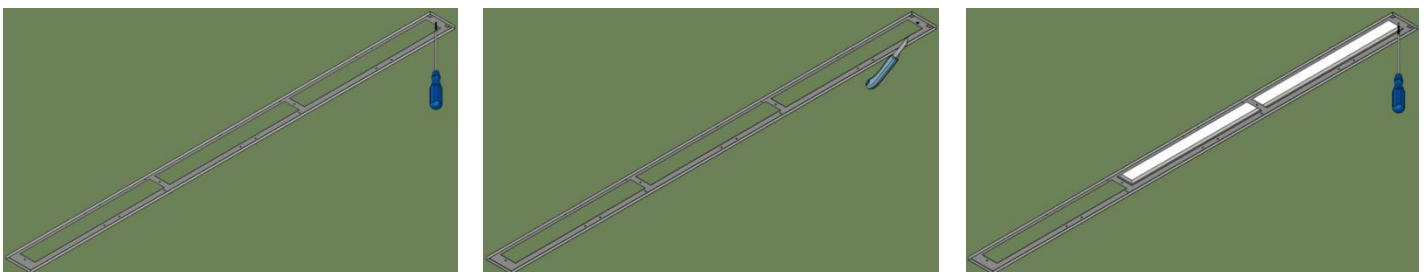

Fig.1-3 Assembly and dis-assembly of the template
- d) Using the template (available as accessory) cut out the installation hole (fig.1-3);